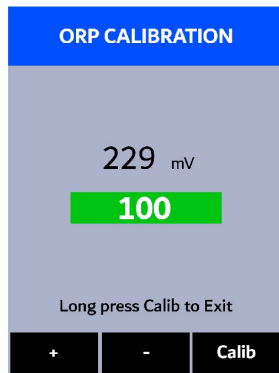

Figure 29.
6. Use + (**<**) and - (**>**) to adjust the ORP value to match the ORP standard used (Figure 29).